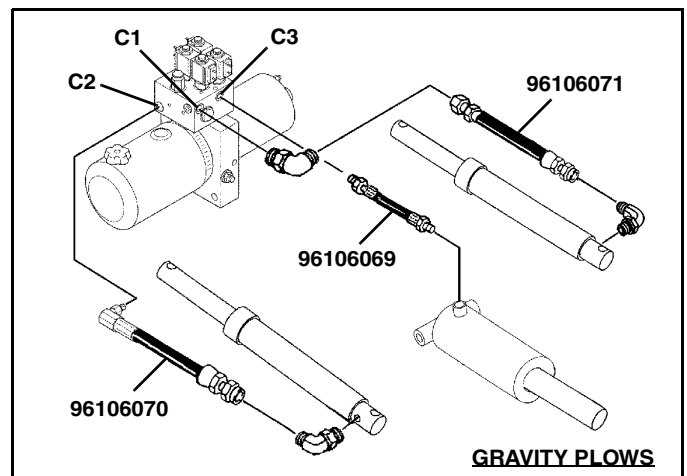
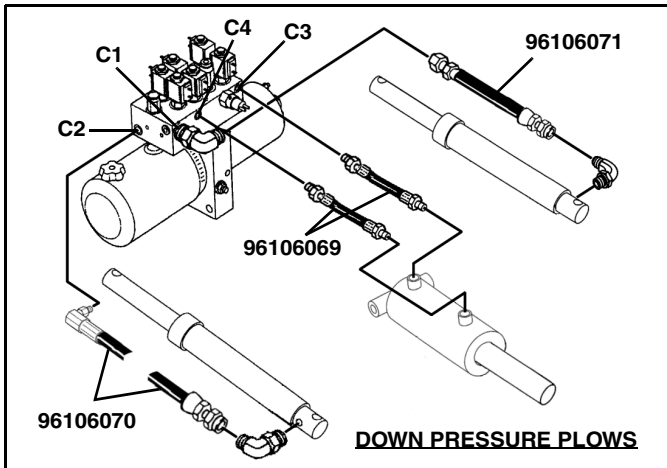
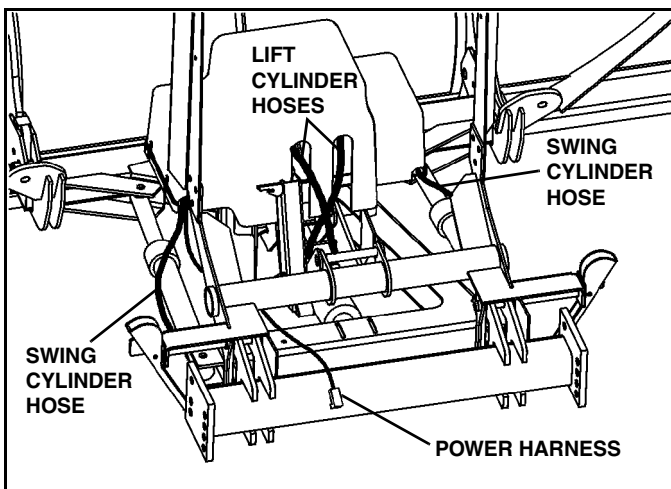

Figure 1-15a
Figure 1-15b
Figure 1-16
29. Install hydraulic hoses per fig. 1-15a for gravity plows and fig. 1-15b for plows with down pressure. Hose part numbers are printed on hose. Hoses should be routed through holes in pump cover. (See Figure 1-16).